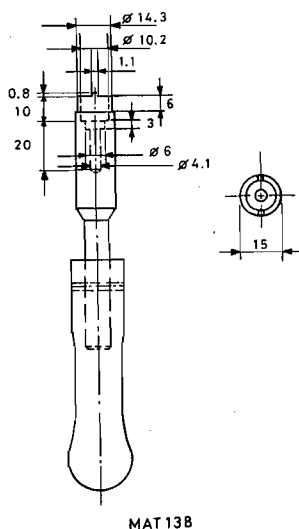

Fig.26.5. Dimensional drawing of tool for BNC input sockets.
- The p.c.b. is mounted in its holder with four screws: before removing the p.c.b., the earth tags (four per BNC) of the BNC's must be unsoldered from the p.c.b.. Also the wire between the BNC signal tag and the bracket with the input capacitors must be unsoldered: this must be done very quickly and close to the BNC in order to avoid that the input capacitors get too hot. The BNC-socket can be separated from the bracket with a special tool that fits on the slotted nut of the BNC. This tool is available under service code number 5322 395 54023. For those who want to make this tool in a local workshop, a dimensional drawing is given in fig.26.5.